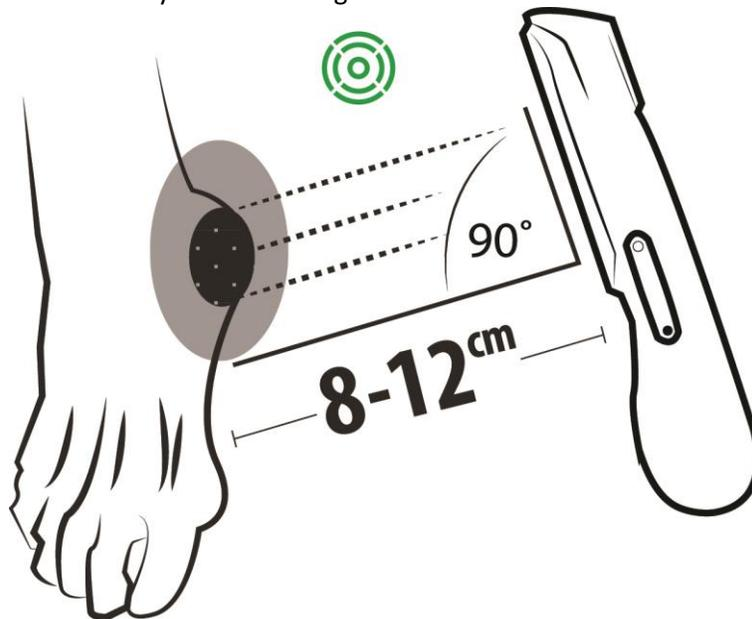

Figure 8: Overview of optimal distance and angling of the device relative to the wound
| Green Light | The optimal distance (8-12 cm) between MolecuLight i:X and the wound being imaged has been reached. See Figure 8. |
- Hold MolecuLight *i:X* such that the plane of the wound is parallel to the plane of MolecuLight *i:X*. See Figure 8.
**Caution** Angling the device incorrectly may result in poor image quality. The Illumination Zone on the device should point directly at wound and be held at the recommended distance. Failure to do so may result in poor image quality. Refer to Figure 8.